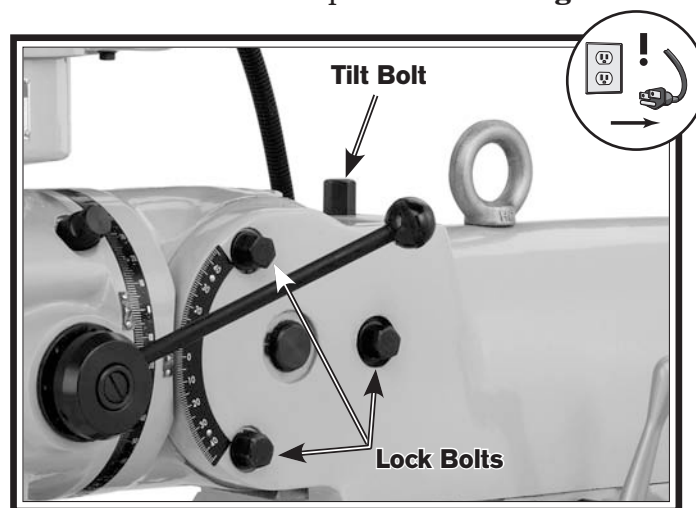

Figure 23. Head tilting controls.
2. Loosen the three tilt lock bolts on the right side of the ram adapter shown in **Figure 23**.